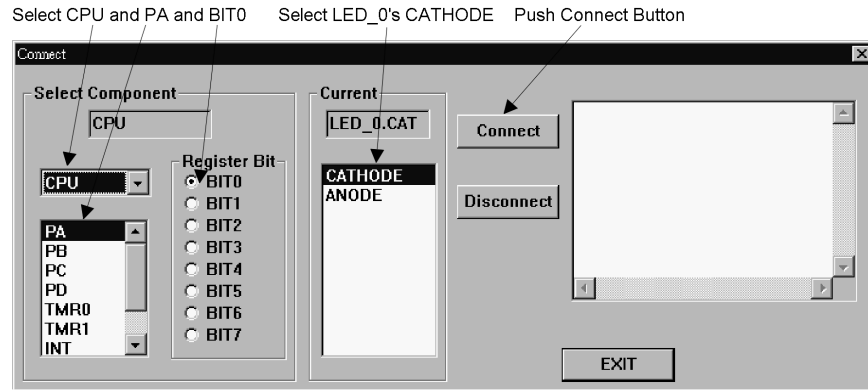

Fig 15-18
- Click the mouse right button on LED_0 to display the connect dialog box as shown as Fig 15-18